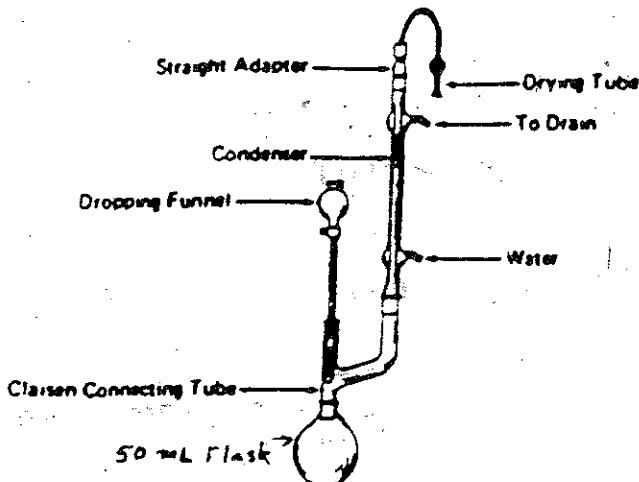
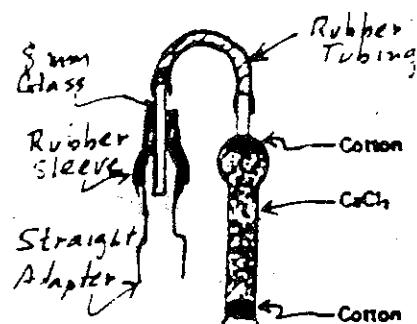

Figure 17.1. Apparatus for Refluxing with Simultaneous Addition of a Liquid
Figure 17.2. Drying Tube
17.1-1. Preparation of the Grignard reagent. Phenylmagnesium bromide. Assemble the apparatus shown in Figure 17.1 using a 50 mL round-bottom flask as the reaction flask. Do not run water into the condenser jacket yet. It is imperative that all of the glassware be *clean and dry*. The drying tube connected to the top of the condenser should be filled with anhydrous calcium chloride (Figure 17.2). The drying tube is inverted and attached by means of a U-shaped tube as shown, rather than directly to the straight adapter, to prevent finely powdered calcium chloride from dropping into the reaction flask and to prevent vapors which may condense in the drying tube from washing drying agent into the reaction flask.